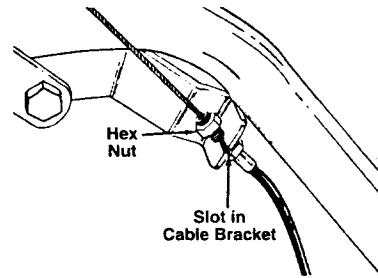

FIGURE 4
2. Slip the wire through the slot on the cable bracket on the left handle. Push the end of the casing up through the cable bracket. Rethread the hex nut on the end of the cable. Do not tighten at this time. See figure 4.